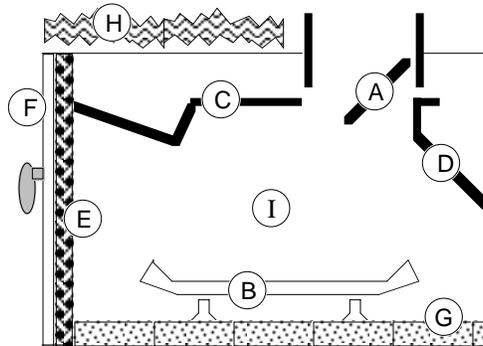

Figure 18
- The damper ("A") and grate ("B") must be removed (see Figure 18). The smoke shelf ("C"), internal baffles ("D"), screen ("E"), and metal or glass doors ("F") may be removed (if applicable). The masonry lining ("G"), insulation ("H"), and any structured rigid frame members (metal sides, floor, door frame, face of the fireplace, etc. – "I") may not be removed or altered